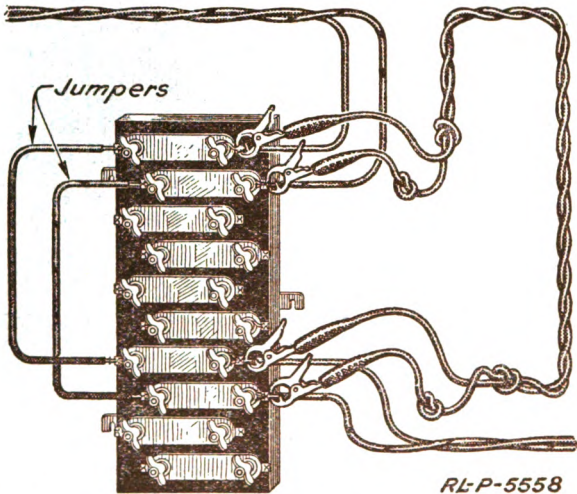

Fig. 34.—Use of Frankel clip leads in converting a test station into a central
9. Place a temporary connection on the right-hand binding posts of the lowest-numbered circuit, jumpering the circuit through the test station on the right-hand side of the terminal strip by means of short leads with Frankel clips attached. (See Fig. 34.) Remove the